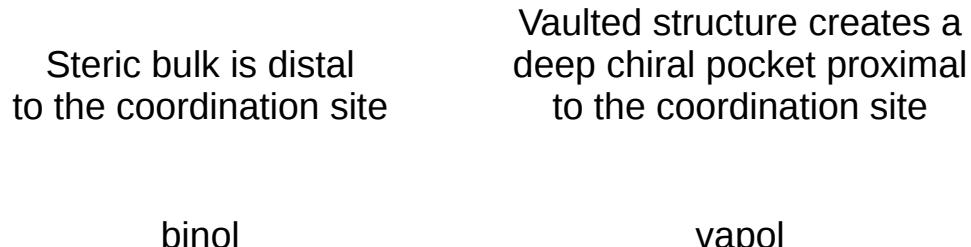

Figure 1. Comparison of (S)-BINOL and (S)-VAPOL Structures
Caption: Figure 1. Comparison of (S)-BINOL and (S)-VAPOL Structures.